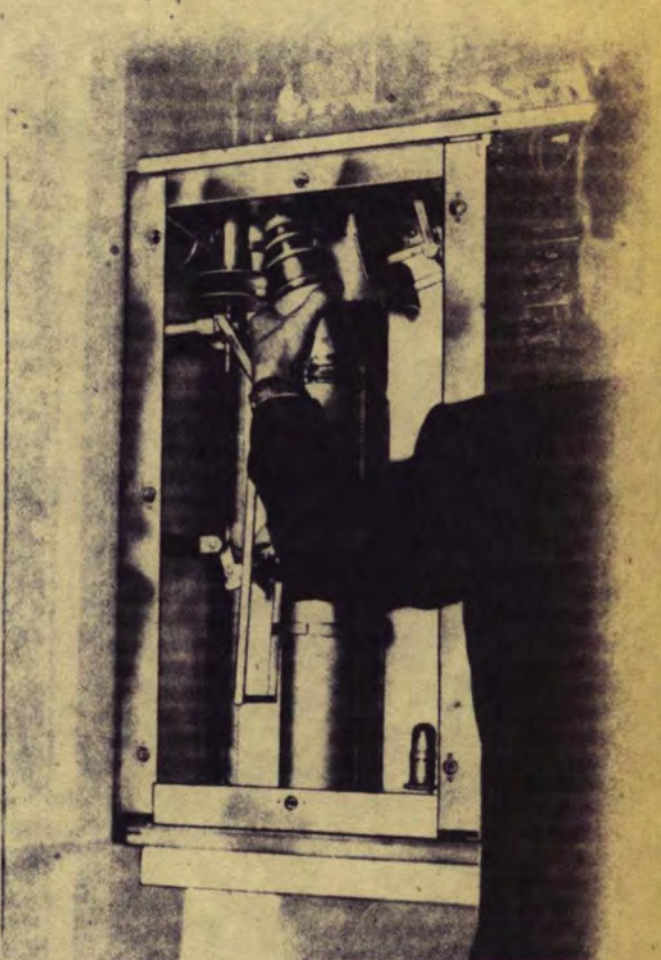

Fig. 5. Type GL-7D21 Amplifier Tube Being Installed in Socket (SY2062A)
Install each type GL-7D21 tube as follows (refer to Fig. 5).
C. Holding the GL-7D21 tube by the anode radiator, insert it into the movable section, as illustrated in Fig. 5.